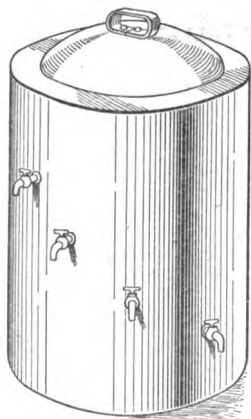

Fig. 234. Settling Tank with Cocks at Various Levels for Saving Oil
**Oil Settling Tanks.** If lubricating systems are drained as often as both manufacturers and oil people recommend, there is a good deal of oil around, which is heavy and of a doubtful quality. But if this oil can be allowed to stand, or can be filtered, a large quantity of it can be used for other purposes. If a tank of fairly large size is made with a series of faucets or cocks at different levels, somewhat like that shown in Fig. 234, enough of the oil can be saved to resell at a good profit, or, if there is no idea of selling it, it can be used for other machinery or for other purposes, where the need for high-quality oil is not so great. The oil drawn off the crankcase is poured in at the top and gradually settles, the heavier sediment going to the bottom, the thickest oils next, and so on,